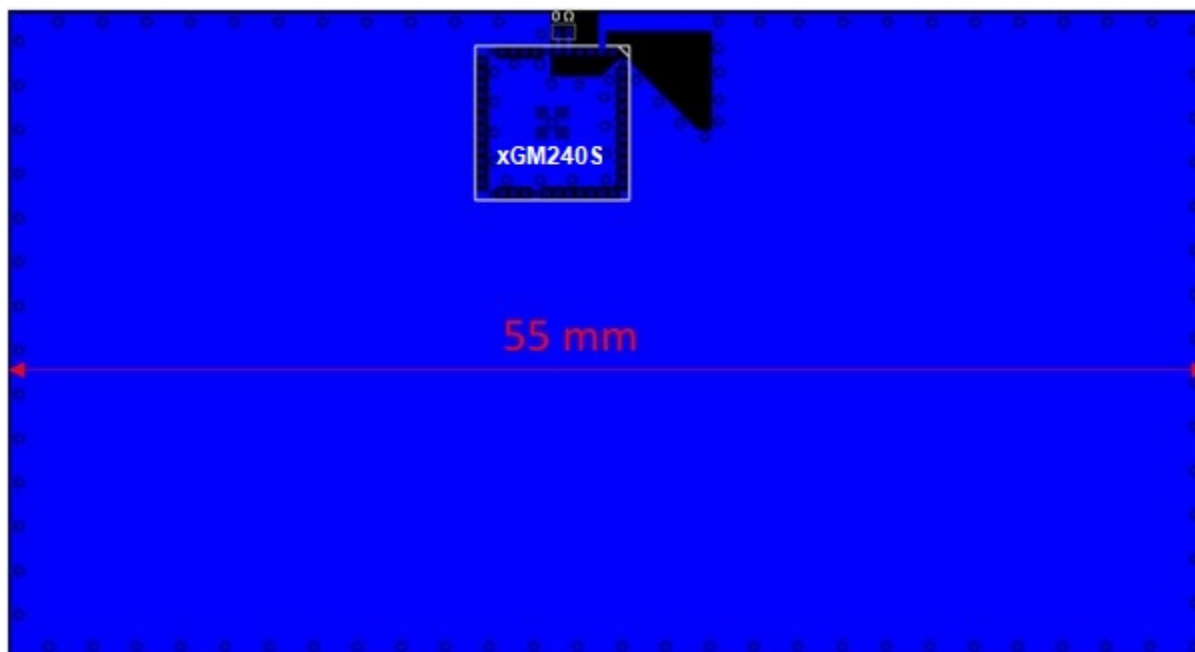

Figure 7.5. Illustration of Recommended Board Width
- To achieve optimal performance, a GND plane width of 55 mm is recommended as seen on Figure 7.5 Illustration of Recommended Board Width on page 42.